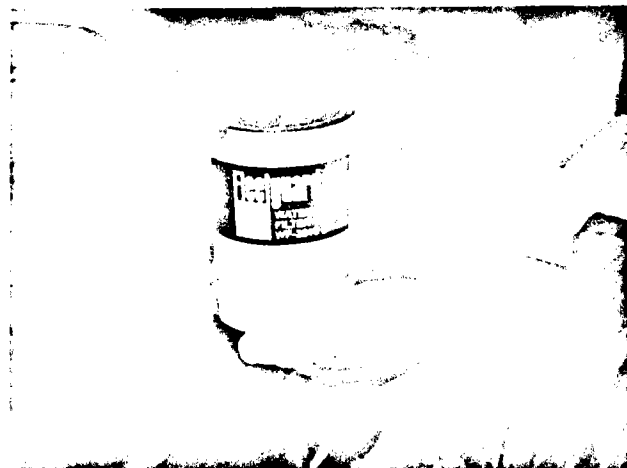

Fig. 2-23. (V514132). Installing DCA "spin-on" water filter.
4. Install a new element, tighten until the seal touches the filter head. Tighten an additional one-half to three-fourths turn. Fig. 2-23. Open the shut-off valves.